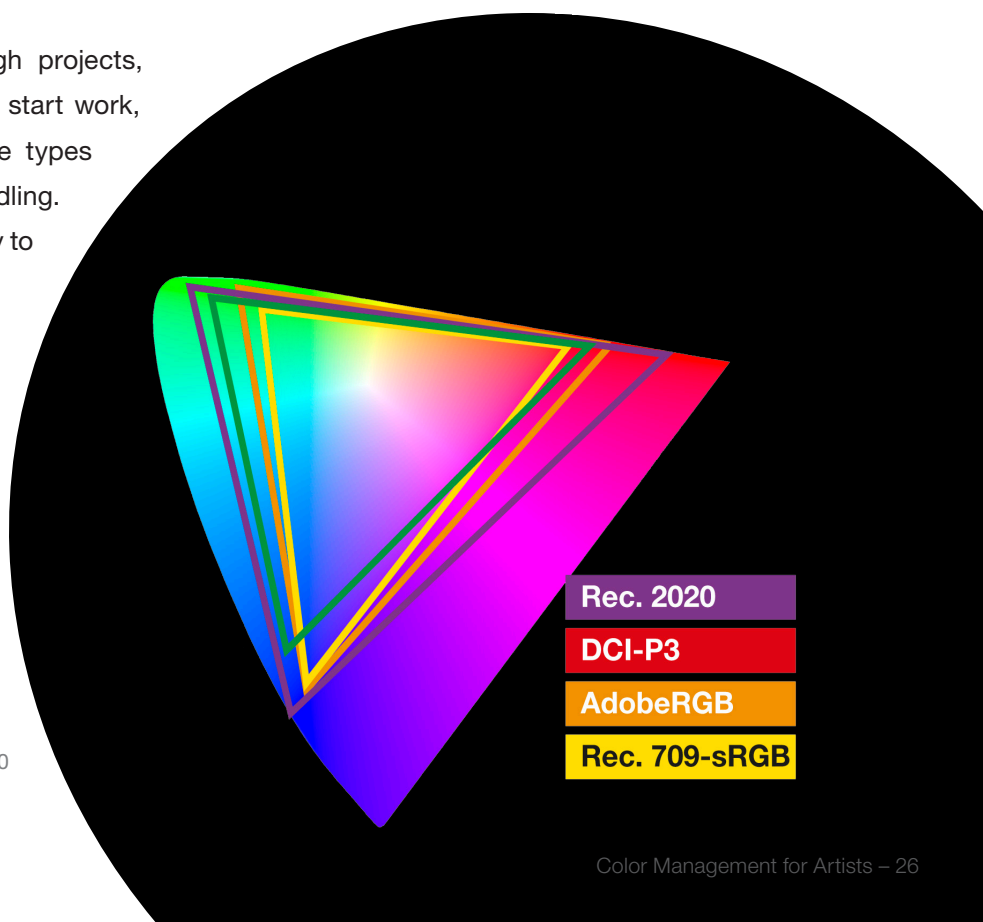

Figure 30
To help you choose, here is information on different options, with gamut outlines (Figure 30).
- For digital cinema, ProPhoto RGB (with a linear tone response curve, e.g. gamma of 1.0) is an excellent choice, or use DCI-P3, which matches digital projectors currently in use. This space (P3) is still considered to be a relatively small space, as shown in Figure 30.